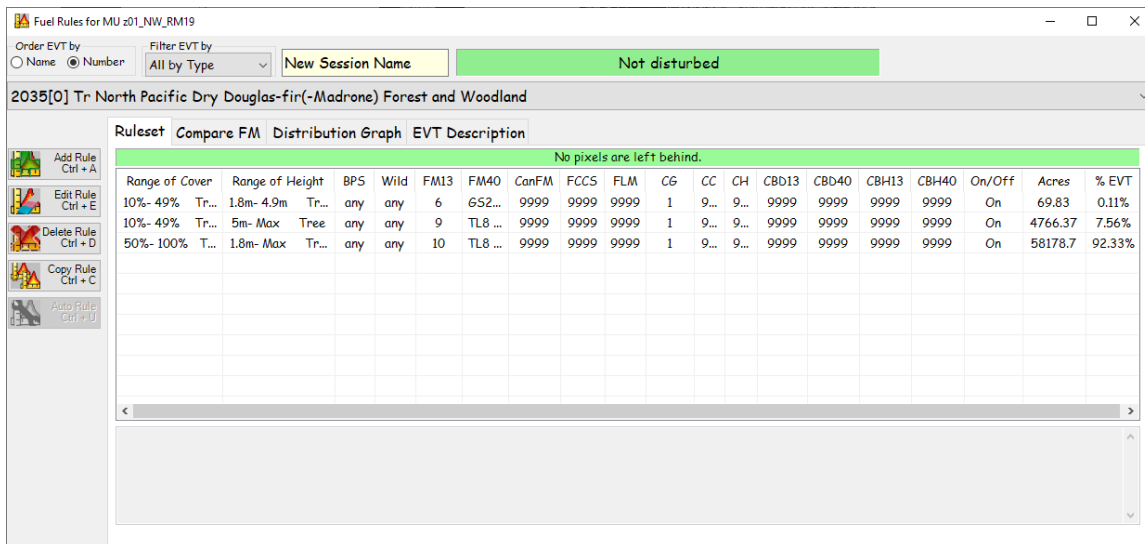

Figure 6-9. FUEL Rules dialog box.
The **Fuel Rules** dialog box with the **Ruleset** page displayed will open (Figure 6-9).
- (Optional) In the Fuel Rules dialog box (Figure 6-9), add a **Session Name** in the box provided if desired.
- 7.5.1 Fuel rule header selections. Use the drop-down window to select an appropriate “**Fuel Vegetation Number and Name**” (Figure 6-9). (This selection allows the user to go directly to the desired FVT and provides information on the dominant species present and type of vegetation that occupies the site). (See FVT Description tab in 7.5.5 Fuel rule page tabs for additional information.)